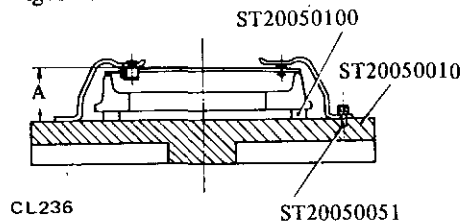
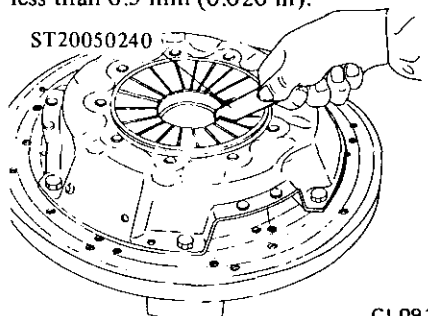

Fig. CL-5 Measuring the height of diaphragm spring
Fig. CL-6 Adjusting spring height
- (1) Place Distance Piece ST20050100 on Base Plate ST20050010 and then tighten clutch cover assembly on the base plate by using Set Bolts ST20050051. See Figure CL-5.
- (2) Measure the height "A" at several points with a vernier caliper depth gauge. See Figure CL-5. If the height "A" of spring end is beyond the specified value, adjust the spring height with Diaphragm Spring Adjusting Wrench ST20050240 as shown in Figure CL-6.